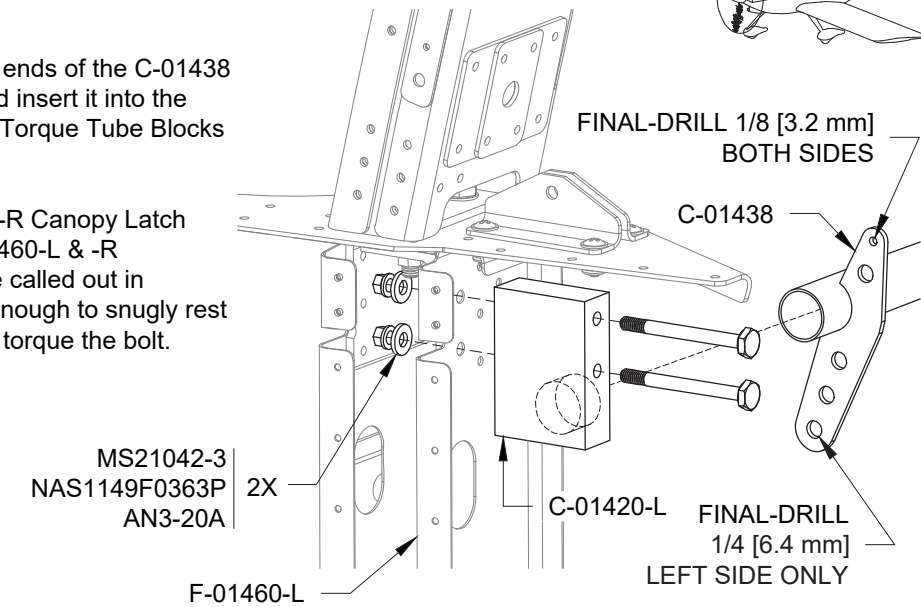

FIGURE 3: CANOPY LATCH TORQUE TUBE INSTALLATION (LONGERON OMITTED FOR CLARITY)
Step 10: Final-Drill the C-01438 Canopy Latch Torque Tube as shown in Figure 3.
Step 11: Lightly grease the the ends of the C-01438 Canopy Latch Torque Tube and insert it into the C-01420-L & -R Canopy Latch Torque Tube Blocks as shown in Figure 3.
Step 12: Bolt the C-01420-L & -R Canopy Latch Torque Tube Block to the F-01460-L & -R Intercostals using the hardware called out in Figure 3. Only torque the bolt enough to snugly rest against the plastic. Do not fully torque the bolt.